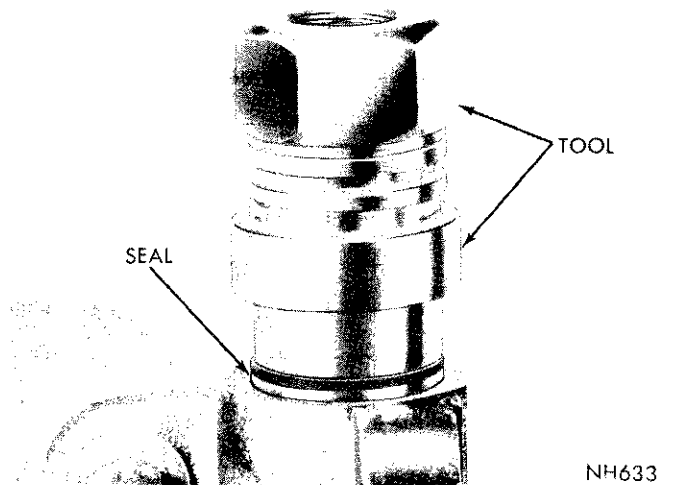
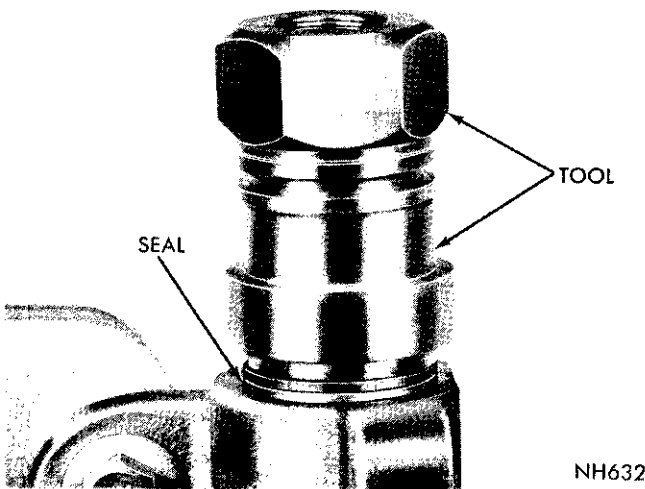

Fig. 6—Installing Gear Shaft Inner Oil Seal
Fig. 7—Installing Gear Shaft Grease Retainer
- (5) Use Tool C-3350-A in same manner as outlined in step (3) to remove inner seal.
- (6) Place new oil seal on flat surface, lip down, lubricate inside diameter with power steering fluid and insert seal protector sleeve SP-1601.
- (7) Position seal with protector over cross shaft with lip of seal toward housing.
- (8) Place tool adapter SP-3052 with long step of adapter against new seal (Fig. 6). Install tool nut on cross shaft and tighten tool nut until shoulder of tool adapter contacts gear housing.
- (9) Remove tool nut, adapter and protector. Install seal back-up washer and oil seal snap ring with sharp edge out.
- (10) Position grease retainer in housing bore. Place tool adapter SP-3052 with short step of lip against seal (Fig. 7). Install tool nut on cross shaft and tighten until shoulder of tool adapter contacts gear housing.
- (11) Place steering gear and front wheels in straight ahead position and install steering gear arm and nut.
- (12) Tighten steering gear arm nut to 180 foot-pounds.